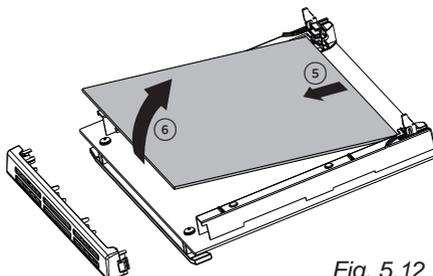

Fig. 5.12
- Gently lift and pull out the middle pane of glass by releasing it from the bottom retaining notches (fig. 5.12).